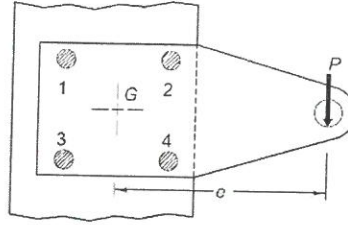

Fig. 2b Structural Connection
- (b) The structural connection shown in Fig. 2b is subjected to an eccentric force P of 10 kN with an eccentricity of 500 mm from the CG of the bolts. The centre distance between bolts 1 and 2 is 200 mm, and the centre distance between bolts 1 and 3 is 150 mm. All the bolts are identical. The bolts are made from plain carbon steel 30C8 ($S_{yt} = 400 \text{ N/mm}^2$) and the factor of safety is 2.5. Determine the size of the bolts. 10 Marks CO_2 3